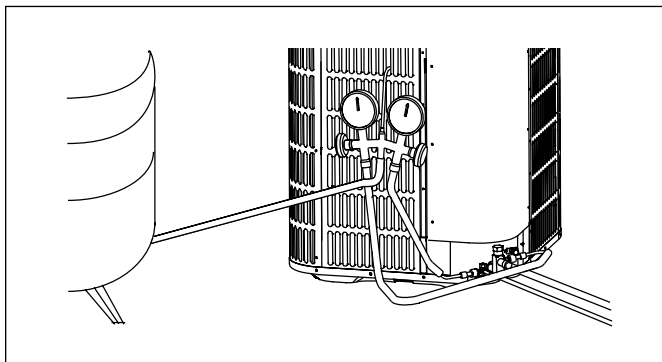

Figure 63
- Connect gauges to refrigerant bottle and unit as illustrated (Figure 63).